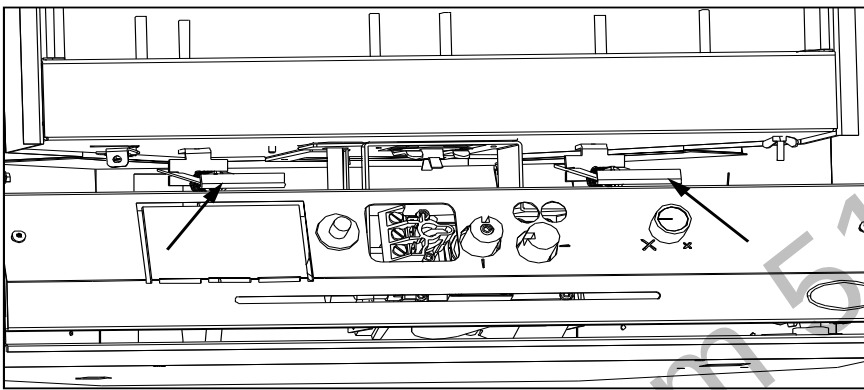

Figure 6. Bottom latches for glass door, disengaged.
In order to install the log set, and for regular cleaning, the glass door must be removed. There are two (2) door latch mechanisms under and two (2) above the glass door shown in Figure 6 & 7. Each latch has two (2) finger grooves, use these to pull the mechanisms straight out. When the latches are unhooked, lift the door up and forward off the unit.